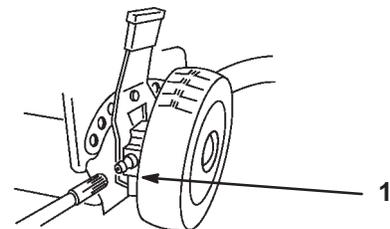

Figure 26
1. Wipe the grease fittings on the rear wheel height adjustment levers with a clean rag (Fig. 26).